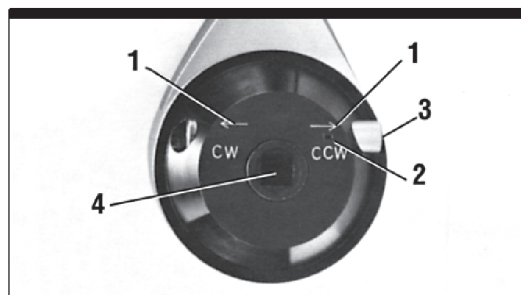

Figure 2. Input End Detail
3. When using a **Power** drive input, **be sure selector pawl (Fig. 2, Item 3) has been locked in neutral position.**
4. The Selector Pawl (Fig. 2, Item 3) controls rotational direction for manually-applied input. It can also be set in a neutral position for power drive output.
2. **For manually applied input:** Set the desired input/output rotational direction by pushing the Selector Pawl in the direction indicated by the letters and directional arrows (Fig. 2, Item 1) stamped on the input end case. EXAMPLE: If counter-clockwise rotation is desired, push Pawl to end of travel in the direction shown by the "CCW" arrow. For clockwise rotation, push Pawl in the opposite direction. See reminder on page 1.
3. **For Power Drive Input:** Lock Selector Pawl in the "neutral" position by centering Pawl between the CW/CCW range of travel and tightening set screw (Fig. 2, Item 2). When properly positioned, screw will be seated in a groove on Selector Pawl, and Pawl cannot be moved in either direction. NOTE: Be sure Power Drive is set to deliver no more than 173 ft./lb.